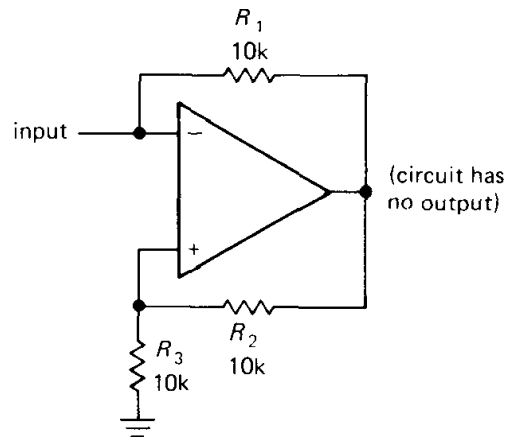

Figure 4.92
(6) The circuit in Figure 4.92 is an example of a "negative-impedance converter." (a) What is its input impedance? (b) If the op-amp's output range goes from V_+ to V_- , what range of input voltages will this circuit accommodate without saturation?